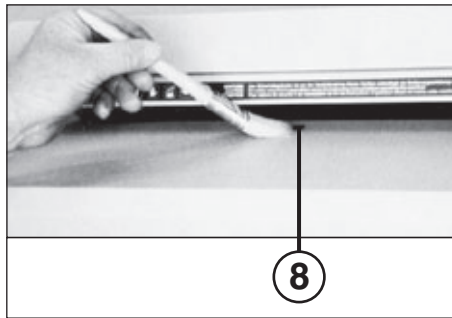

Fig. 5
8 = Light barrier (forward operation) (fig. 5)
CLEANING THE PHOTOCELLS (8) (Fig. 5):